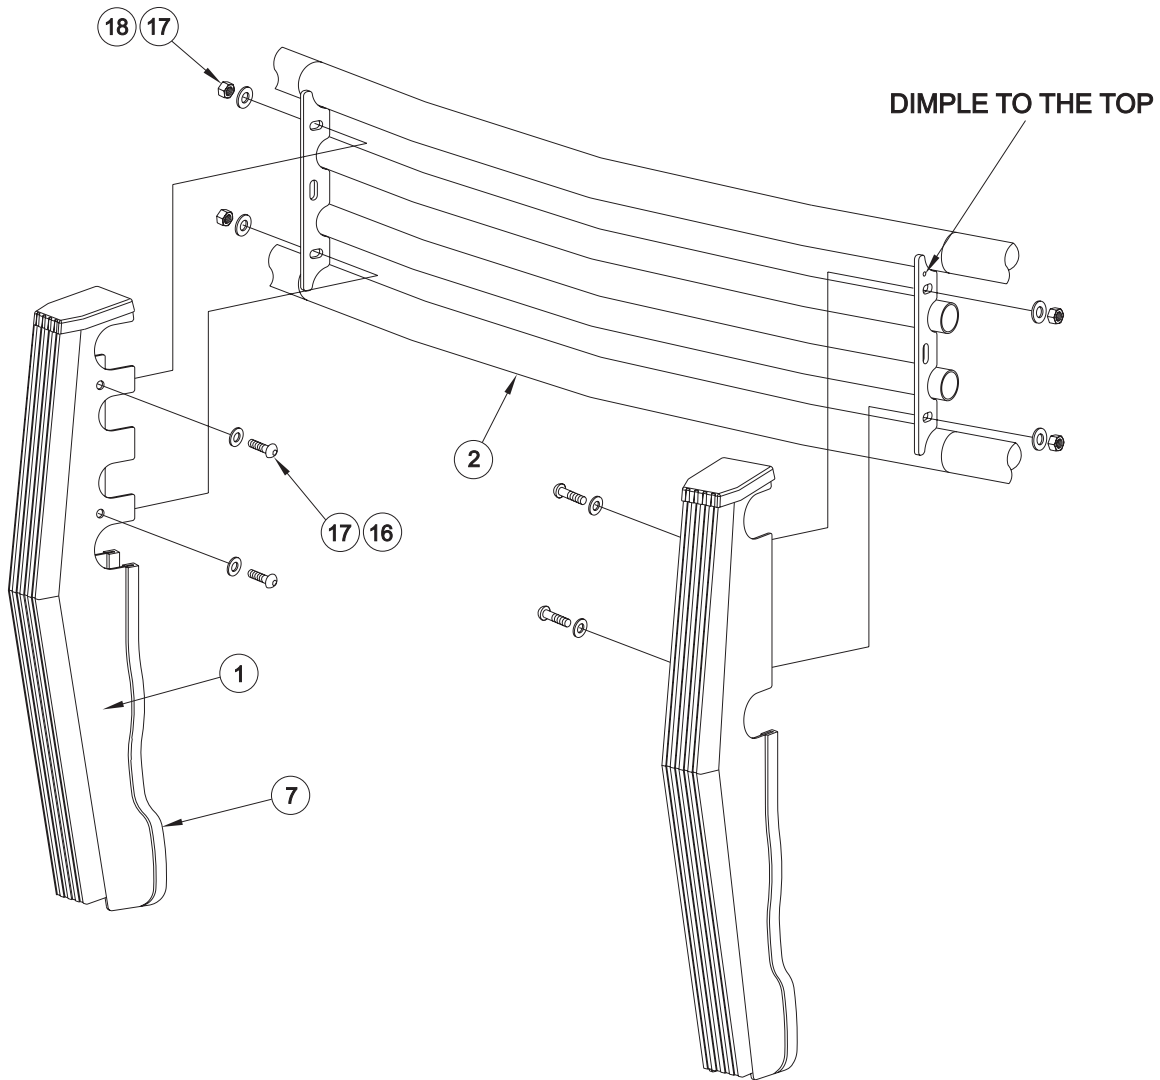

FIGURE 4
- STEP 2. Determine passenger and driver uprights and center section assembly and assemble as shown. **SEE FIGURE 4.** Hand tighten all fasteners centered in slots or holes. Be sure dimple in ring mount plate is to the top.